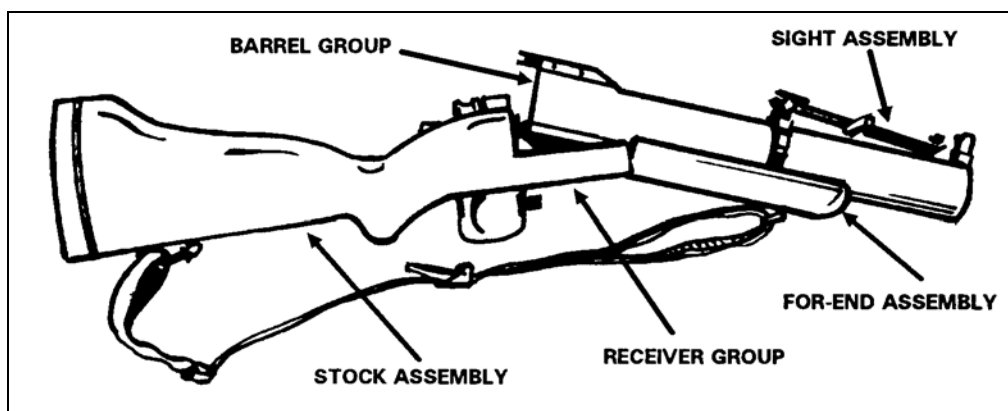
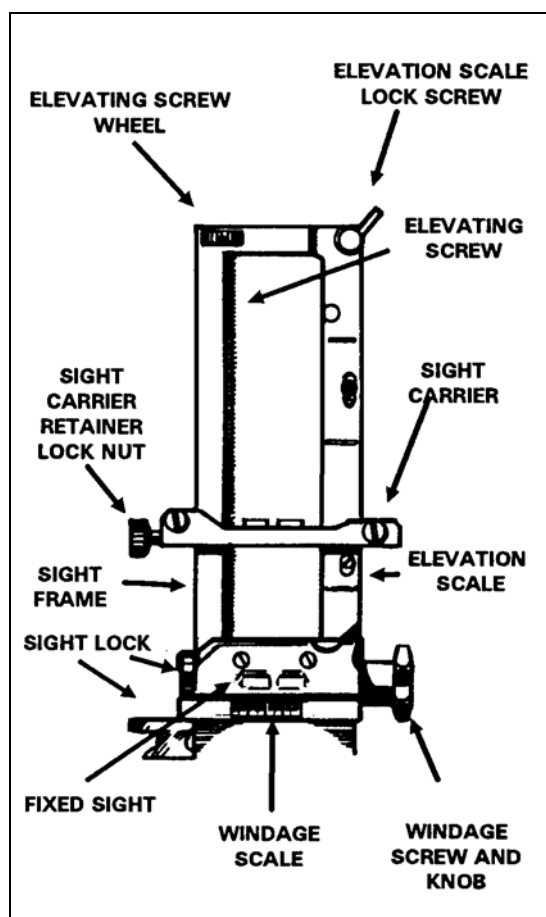

Figure A-2. Relationship of components.
Figure A-3. Rear sight.
The major components of the 40-mm grenade launcher are shown in Figure A-2. The front and rear sights, the safety, the trigger and trigger guard detent assembly, and the barrel locking latch and lever are shown in Figures A-3 through A-8.
a. **Rear Sight Assembly.** Figure A-3 shows the adjustable rear sight assembly, which consists of a rear sight lock, a windage screw and scale, an elevation scale and lock screw, a sight carrier and retainer locknut, an elevating screw wheel and elevating screw, and a rear sight frame with fixed leaf sight. To align the rear sight with the front sight, adjust the ladder on the rear sight.